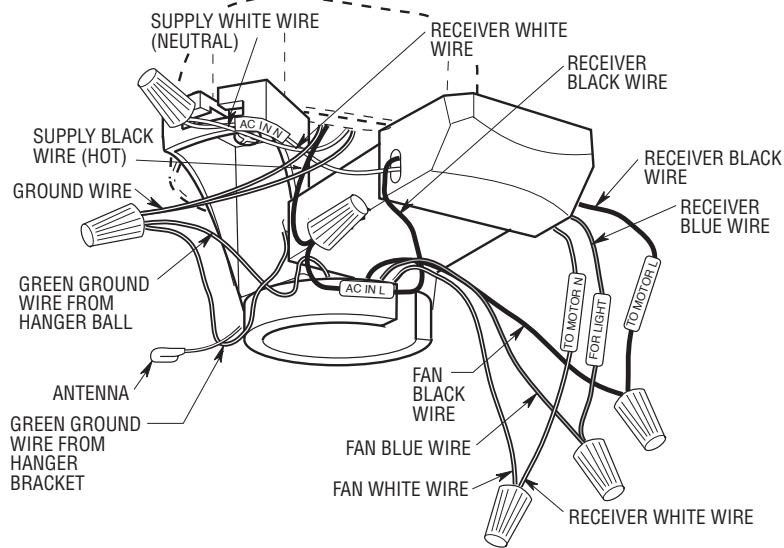

Figure 23
- Position the supply wires to the left side of the outlet box (Figure 23); position the fan wires to the right side.
- Partially insert the remote control receiver (flat side up) until one end rests on the hanger bracket as shown in Figure 23. Be sure to insert the antenna wire first, making certain that it passes completely through the mounting bracket.
- Refer to Figure 23 and connect the receiver wires to the supply wires and the fan motor wires as follows: